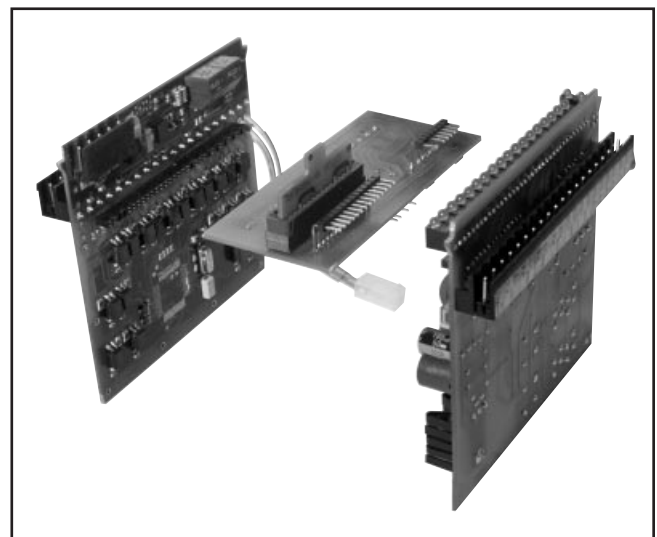

Figure 15. Disconnect the circuit boards from one another.
- 4) Disconnect the circuit boards from one another (Figure 15).